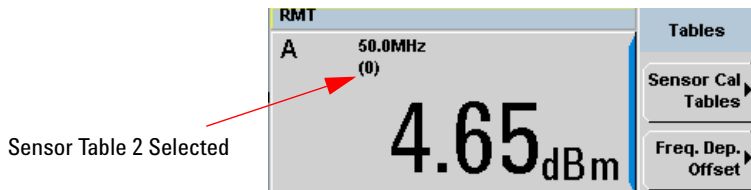

Figure 7-129 Frequency dependent offset indicator
- 4 Press **Done** again to display the measurement screen. **Figure 7-129** shows which offset table is selected.